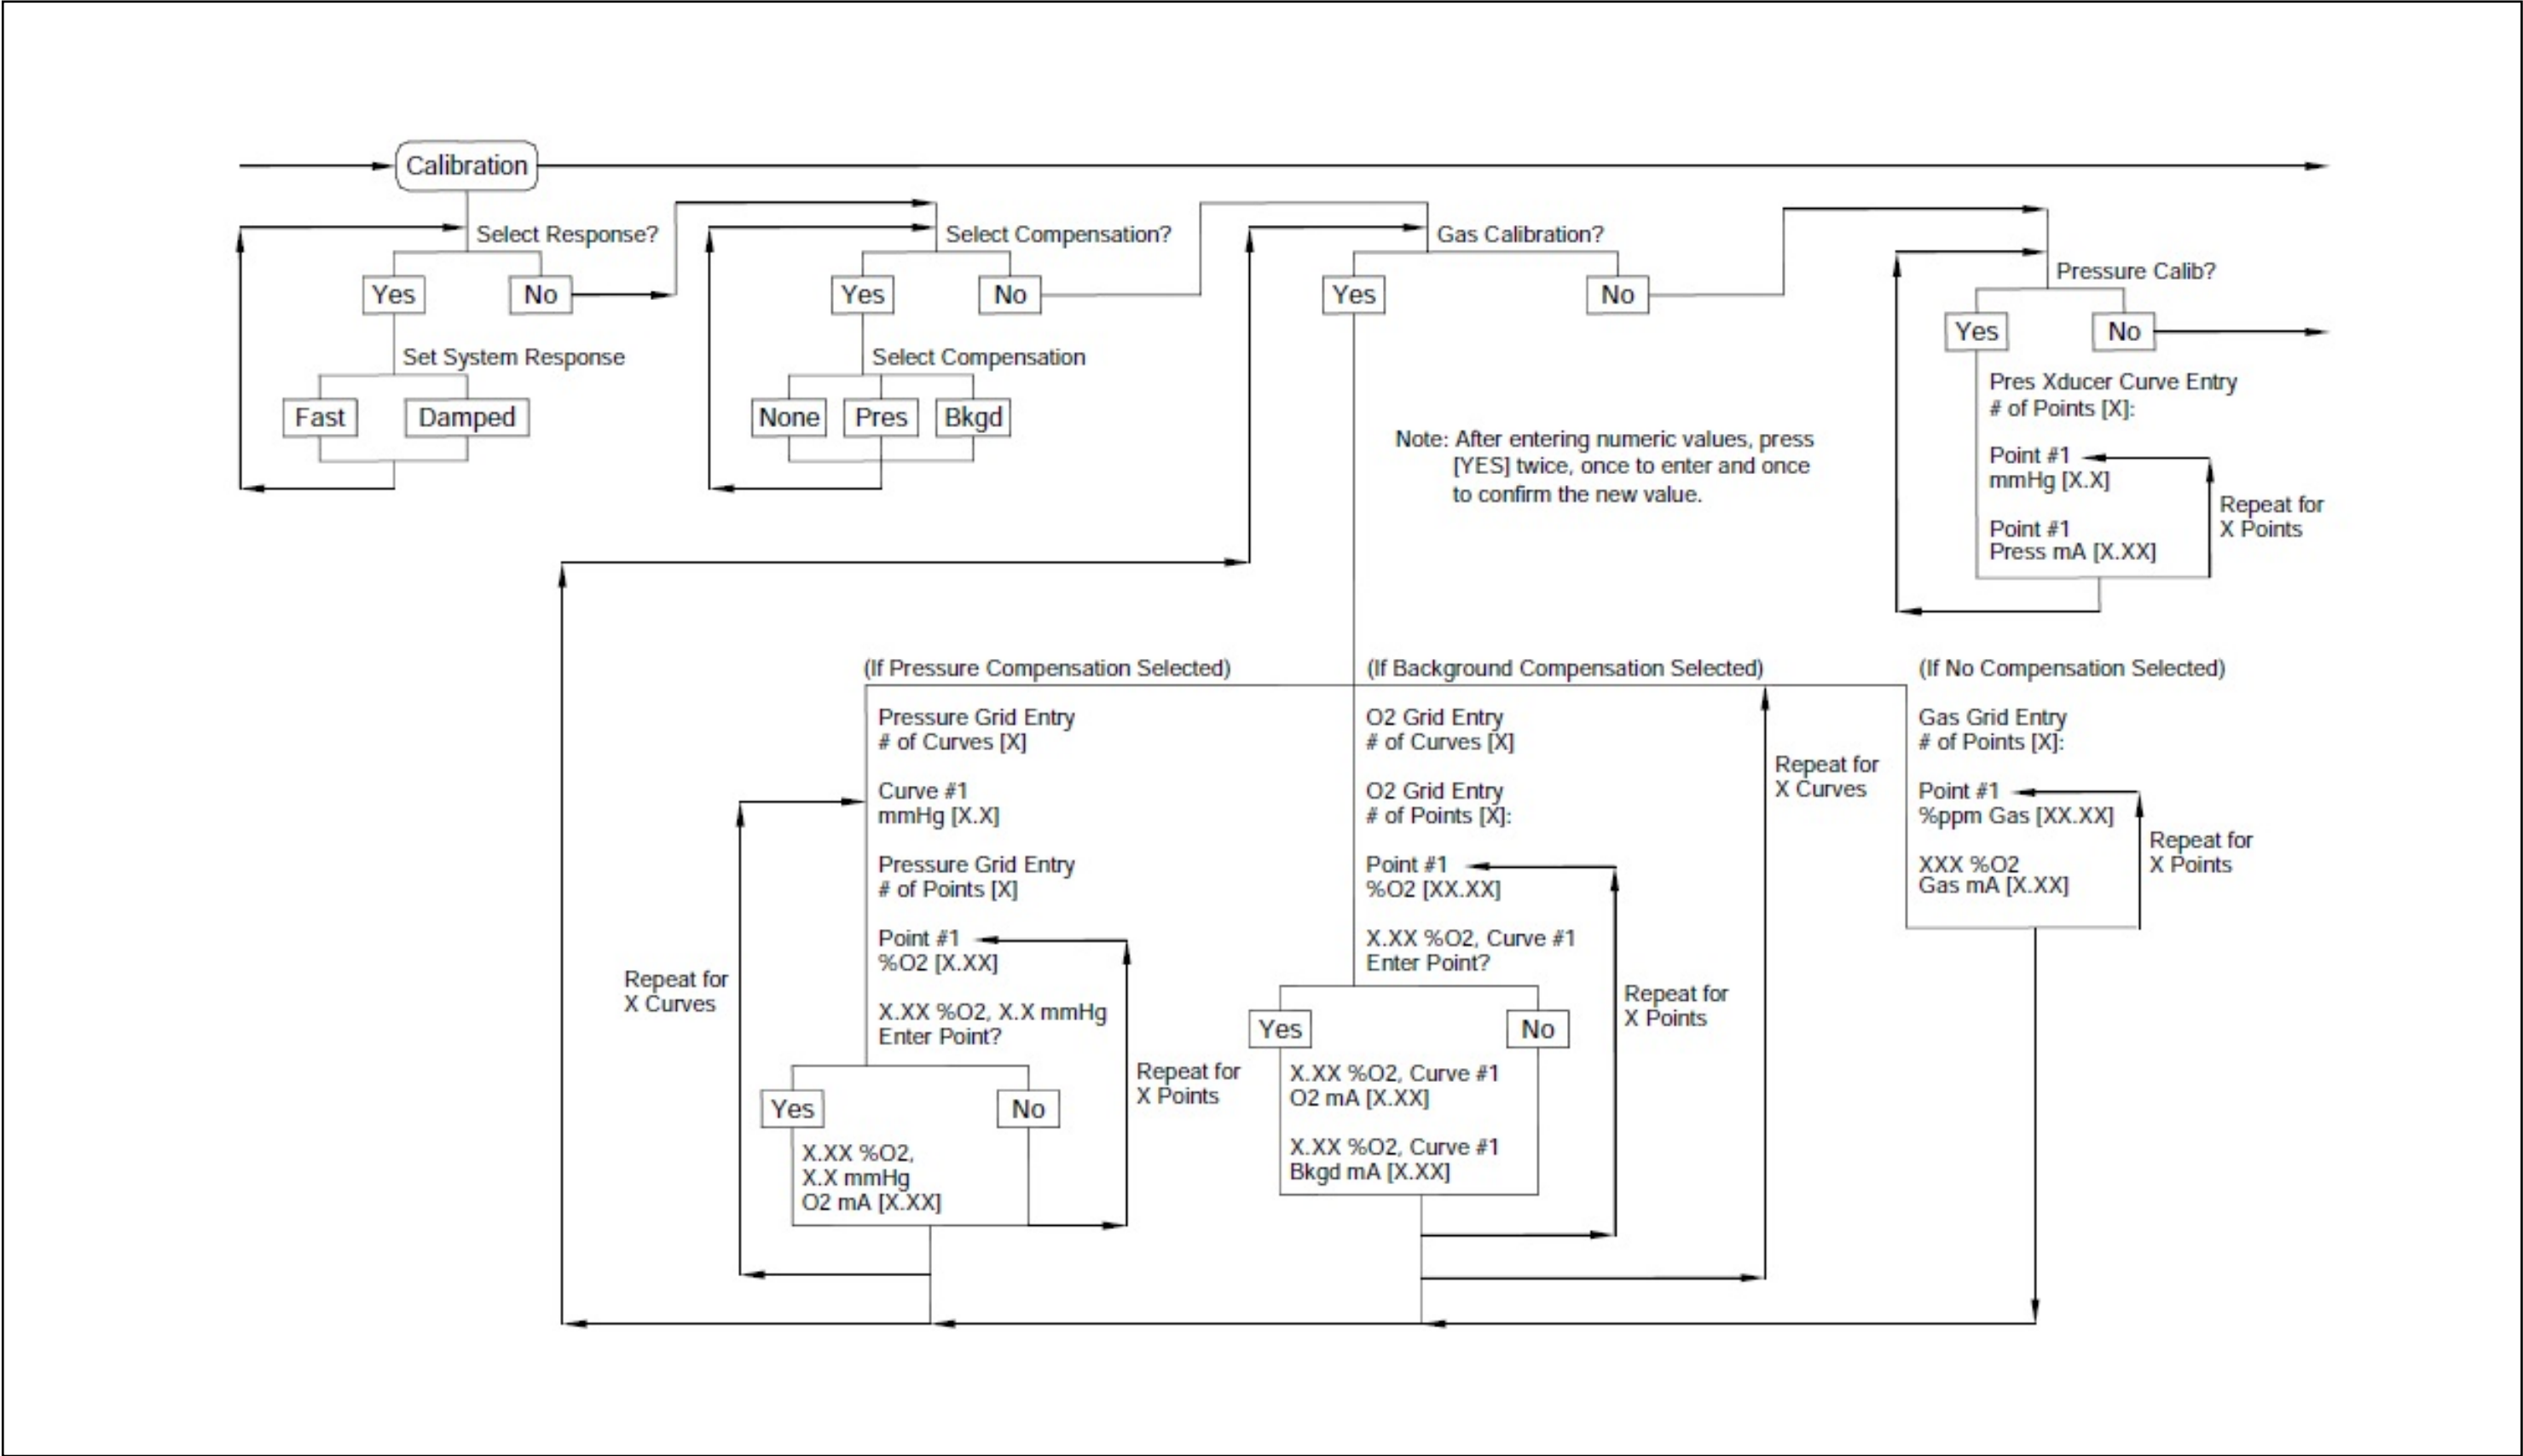

Figure 28: Main Menu: Calibration Menu
- *Figure 28:* Main Menu: Calibration Menu